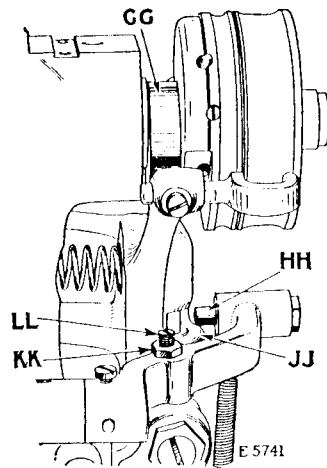

Fig. 24. Adjustments for Timing
on the highest point of the stop cam (GG, Fig. 24). When in this position, the lock pin (HH, Fig. 24) 40052 should be $\frac{1}{16}$
inch above the stop cam interlocking rod guide (JJ, Fig. 24) 23514 as shown in Fig. 24. If it is not, loosen the lock nut (KK, Fig. 24) in the tension releaser lever and turn the adjusting screw (LL, Fig. 24) in or out, as may be required, then securely tighten the lock nut (KK).